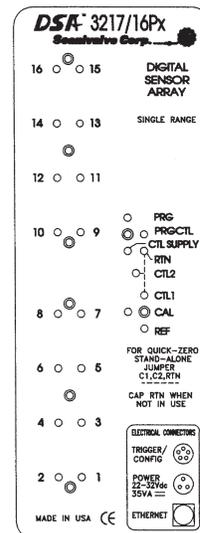

FIGURE 2.1 - DSA3217-PTP/16Px TOP PANEL
The basic DSA3217-PTP/16Px module provides 16 channels of the same 'gauge' pressure range sensors. These 16 pressure transducers are configured into two (2) groups of eight (8) each. Each group of eight (8) transducers shares a common calibration valve and a common reference manifold. Single range modules tie the two reference manifolds together and the two calibration valves to provide the user with a single reference and a single calibration port to connect to. Figure 2.1 depicts the top panel of a standard DSA3217-PTP/16Px.